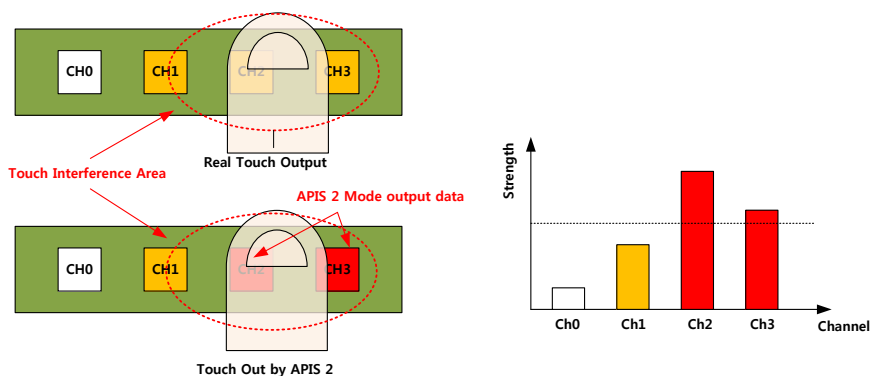

Figure 4: Operation of APIS Mode 2
- APIS mode 2:** Reports all outputs that exceeds pre-defined thresholds (value of Strength Threshold register) (Figure 4).